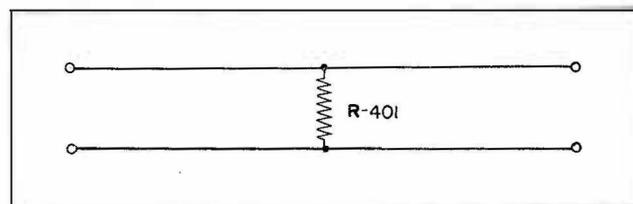

Figure 4-19—Schematic Diagram of the 10:1 Attenuator Unit (Type CFD-63710)
b. The schematic diagram of the 10:1 Attenuator Unit is shown by Figure 4-19. The unit contains a shunt resistor of 1.11 ohms (R-401). When plugged into the Output Jack (J-102) the resultant output resistance is reduced to one ohm for the first four MULTIPLIER positions (1-10-100-1000). Correspondingly, the output voltage is reduced by a factor of ten.